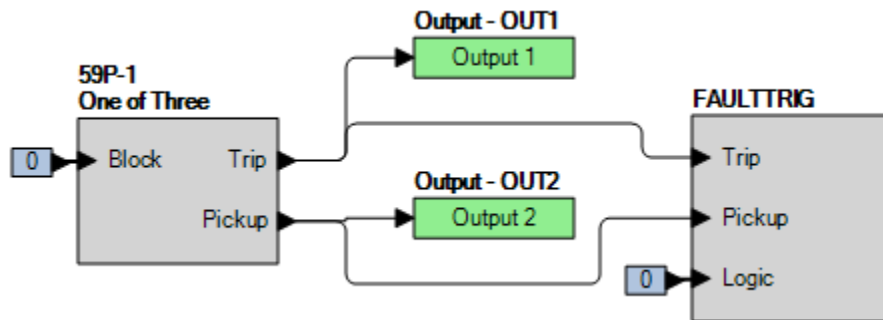

Figure 62-1. BESTlogicPi.us Settings
Step 2: Use BESTCOMSPi.us to configure the BESTlogicPi.us programmable logic shown in Figure 62-1.
Step 4: Prepare to monitor the 59P-1 function operation. Operation can be verified by monitoring OUT2 (see Figure 62-1).